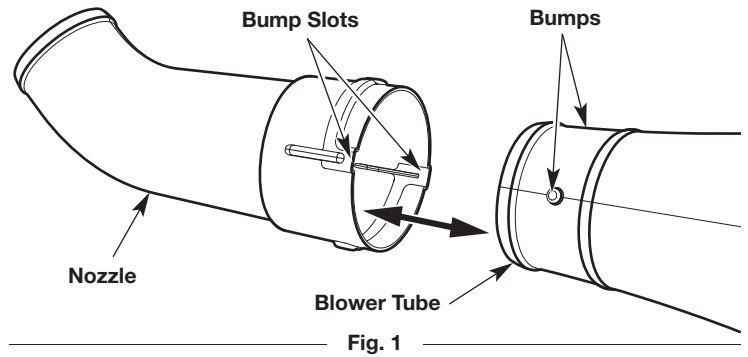

Fig. 1
1. Align the bump slots on the inside of the nozzle with the bumps on the blower tube (Fig. 1). Push the nozzle onto the blower tube.